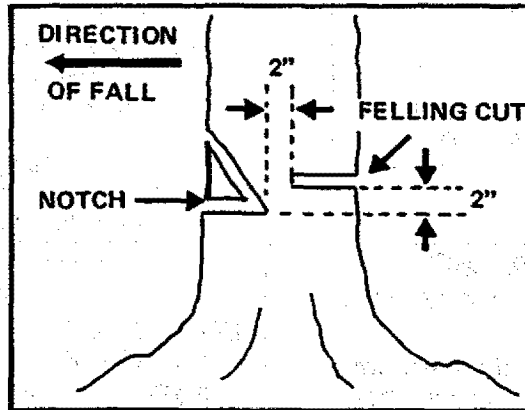

Figure 28
- a. Make the notch cut. **Figure 28.**